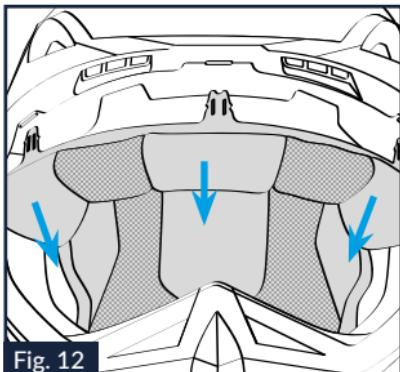

Fig. 12
8.2. Unhook the left front flap from the support fixed to the inner shell below the trim of the upper edge of the shell by slightly pulling the comfort padding towards the inside of the helmet (Fig. 12). Repeat the same steps for the central front and right front flaps.